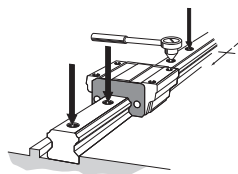

Fig. 10: Fully Fastening the Mounting Bolts
- (4) Tighten the mounting bolts at the designated torque using a torque wrench. (See Fig. 10, and Table 1 and Table 2 on **B1-101**.)